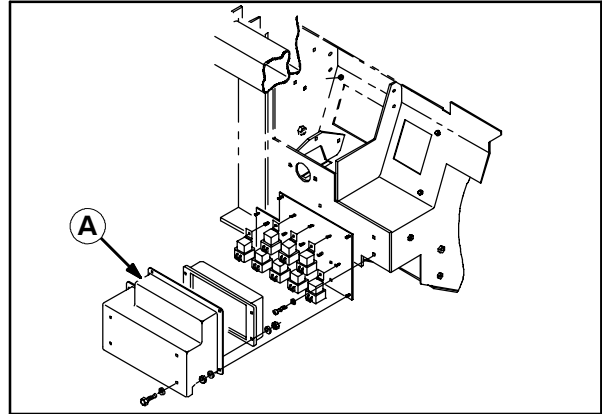

FIG. 4
8. Remove the relay cover (A) from the relay panel. Refer to Fig. 4.